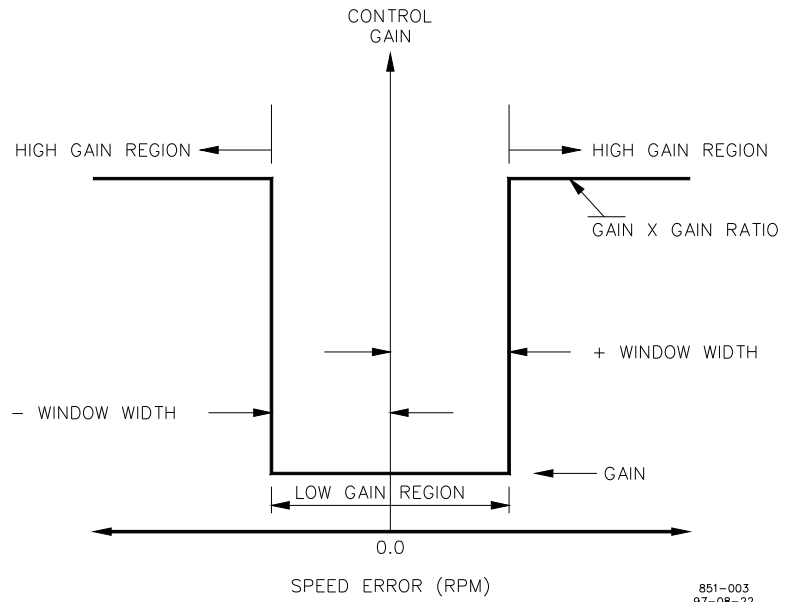

Figure 3-2. Control Gain as a Function of Speed Error
4. **GAIN RATIO** is the ratio of the Gain setting at steady state to the Gain setting during transient conditions. The Gain Ratio operates in conjunction with the Window Width and Gain adjustments by multiplying the Gain set point by the Gain Ratio when the speed error is greater than the Window Width. This makes the control dynamics fast enough to minimize engine-speed overshoot on start-up and to reduce the magnitude of speed error when loads are changing. This allows a lower gain at steady state for better stability and reduced steady-state actuator linkage movement. (See Figure 3-2.)
5. **WINDOW WIDTH** is the magnitude (in rpm) of a compensated speed error (E_c) at which the control automatically switches to fast response. The control uses the absolute value of compensated speed error (E_c) to make this switch. The absolute value is the difference between the speed reference (N_r) and the compensated speed (N_c). A Window Width too narrow will result in cycling that always factors in the Gain Ratio. (See Figure 3-2.)
13. **GAIN RATIO** is the ratio of the Gain setting at steady state to the Gain setting during transient conditions. The Gain Ratio operates in conjunction with the Window Width and Gain adjustments by multiplying the Gain setpoint by the Gain Ratio when the speed error is greater than the Window Width. This makes the control dynamics fast enough to minimize engine speed overshoot on start-up and to reduce the magnitude of speed errors when loads are changing. This allows a lower gain at steady state for better stability and reduced steady-state actuator linkage movement (see Figure 3-2).
14. **WINDOW WIDTH** is the magnitude (in rpm) of a compensated speed error (E_c) at which the control automatically switches to fast response. The control uses the absolute value of the compensated speed error (E_c) to make this switch. The absolute value is the difference between the speed reference (N_r) and the compensated speed (N_c). A Window Width too narrow will result in cycling that always factors in the Gain Ratio (see Figure 3-2).